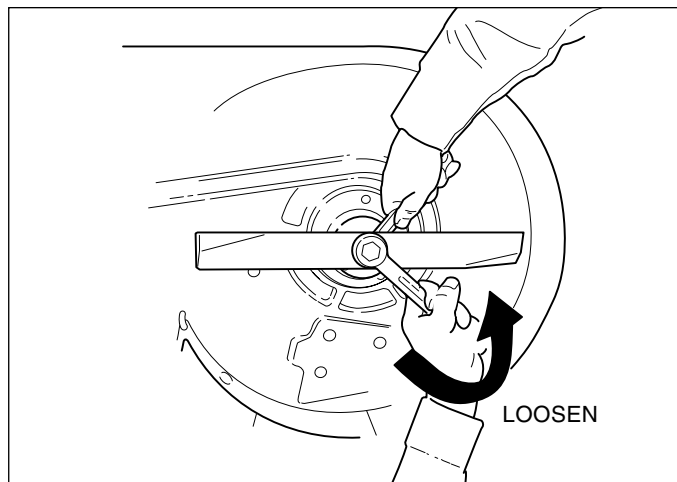

Figure 9. Removing the Blade
- To remove blade for sharpening, use a 1" wrench on the flats of the spindle shaft while removing the blade mounting bolt with a 15/16" wrench (Figure 9).